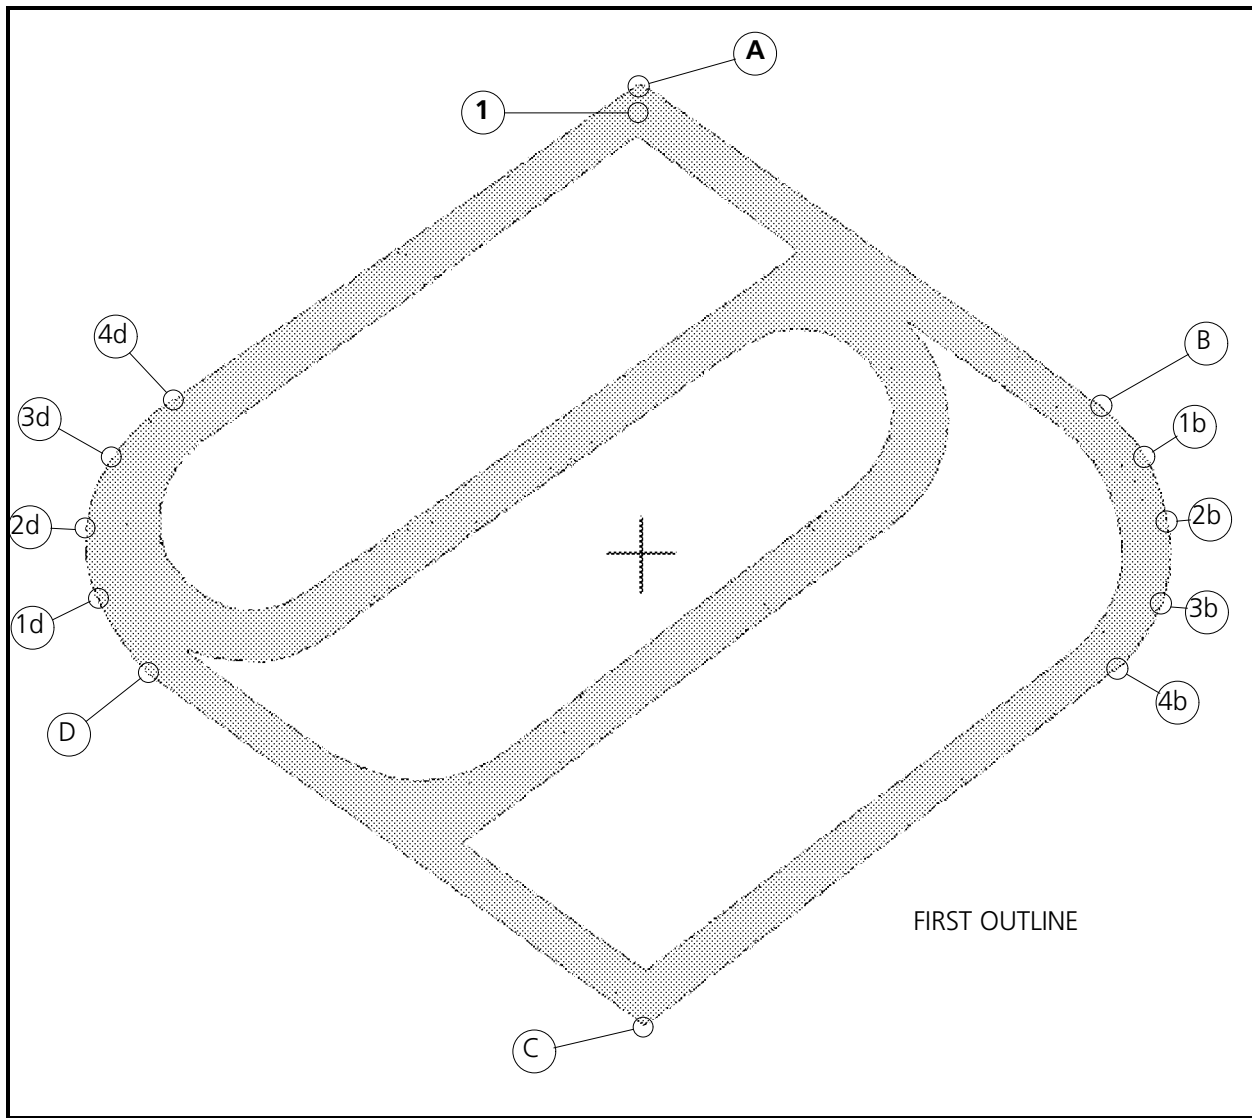

Figure 3-67
2. Move the tablet cursor to the upper middle area of the design and enter a Mk1 in that location (see item 1 in Figure 3-67).
1. Enter a Mk1 in the very top of the design shown as item A in Figure 3-67.